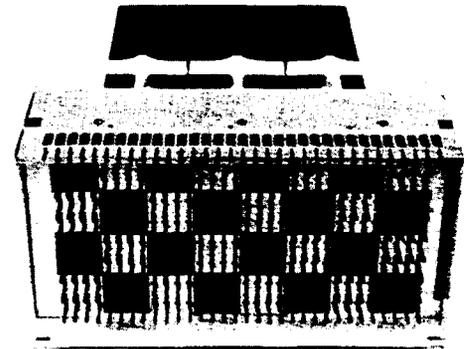

Figure 39—Bridge Lifter Block — 89-Type
8.27 The bridge lifter assemblies (Figures 39 and 40), designed for mounting on a central office distributing frame, are equipped with 1574D inductors terminated to one side of a wire-wrap terminal block. The 1574D comes equipped with a 5800-ohm shunt that reduces the AC inductors. These saturable inductors are miniature toroid cores that are bifilar wound, and minimizes inductive imbalance and reduces resulting line noise. The standard bridge lifter comes equipped with 64 inductors and provides 32 circuits. Bridge lifters with 25 circuits are available.